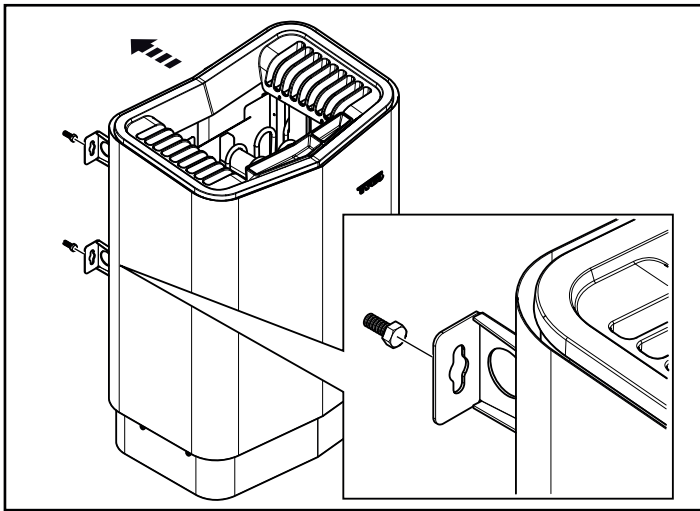

Figure 13: Hang the heater up.
7. Hang the heater on the screws see Fig. 13.